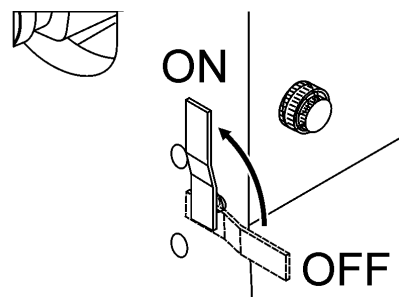

Figure 33. Water System ON/OFF Valve
4. Open the water system valve on the left side of the console by moving the lever to the ON position (Figure 33) and ensure the water is flowing equally to both sides of the diamond blade.